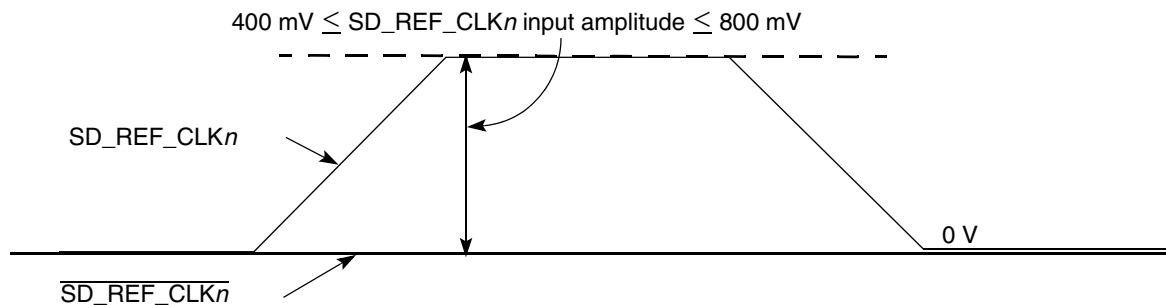

**Figure 36. Single-Ended Reference Clock Input DC Requirements**
- The SD\_REF\_CLKn input average voltage must be between 200 and 400 mV. Figure 36 shows the SerDes reference clock input requirement for single-ended signaling mode.